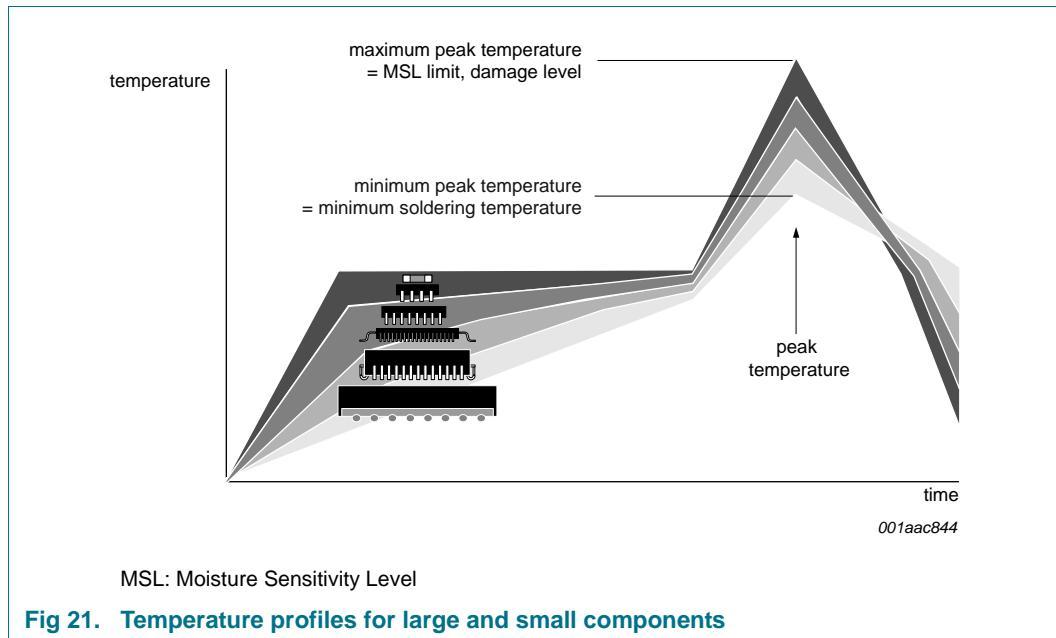

Fig 21. Temperature profiles for large and small components
- Lead-free versus SnPb soldering; note that a lead-free reflow process usually leads to higher minimum peak temperatures (see Figure 21) than a PbSn process, thus reducing the process window
Studies have shown that small packages reach higher temperatures during reflow soldering, see Figure 21.